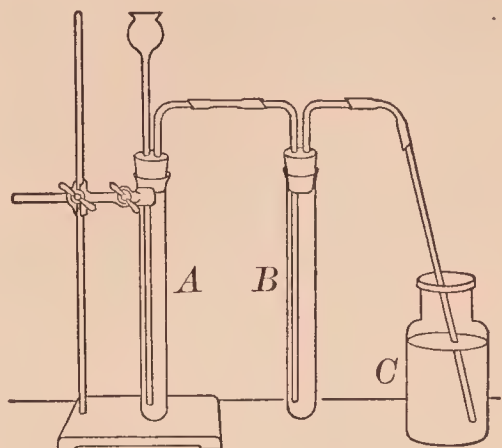

FIG. 74. — Apparatus for preparing carbon dioxide free from acid
**APPARATUS.** — Carbon dioxide generator (see Fig. 74).
**I. Preparation.** — Put 8 gm. of powdered ammonium carbonate and 75 cc. of ammonium hydroxide into a bottle; add about 35 gm. of fine sodium chloride, cork the bottle, and shake the mixture vigorously until most of the solid has dissolved. Pour off the clear solution into the bottle *C* (Fig. 74).
Construct a carbon dioxide generator (see **Supplementary Exercise 39**) like that shown in Fig. 74. Put about 20 gm. of marble in the generator bottle *A*, 25 cc. of water in the tube *B*, introduce dilute hydrochloric acid as usual, and pass carbon dioxide slowly through the solution in the bottle *C*